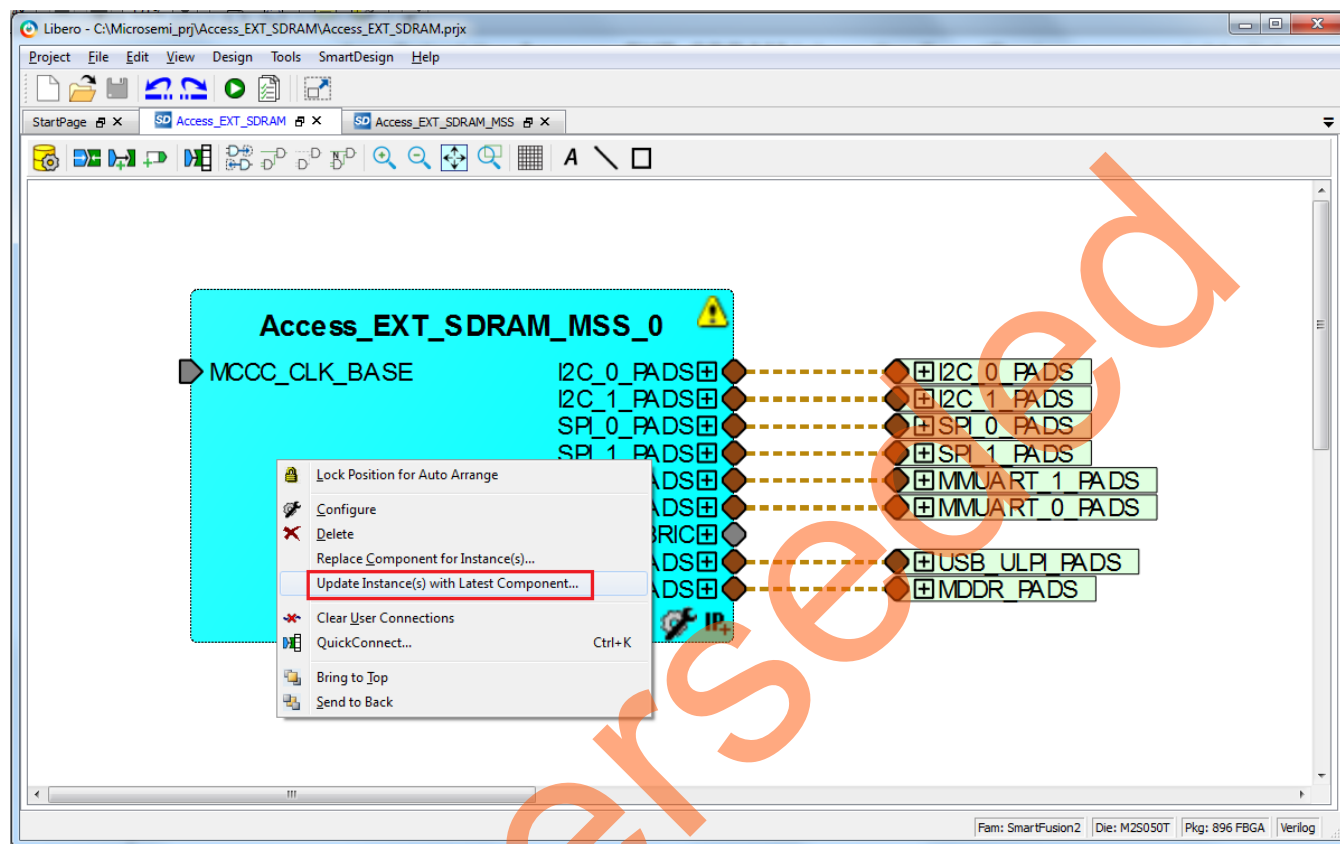

Figure 13. Updating the MSS
1. Select the **Access_EXT_SDRAM** tab on the SmartDesign canvas, right-click **Access_EXT_SDRAM_MSS_0** and select **Update Instance(s) with Latest Component**, as shown in Figure 13.